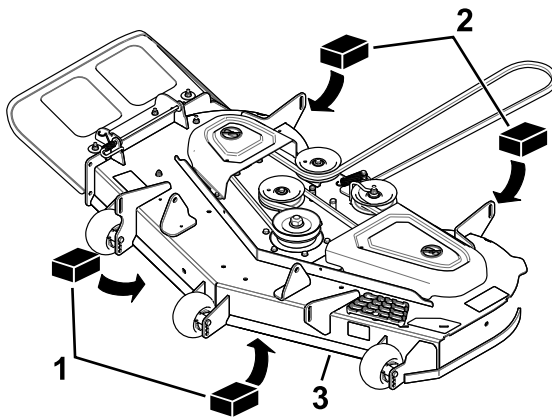

Figure 64
3. Place 2 blocks, each having a thickness of 6.6 cm (2-5/8 inches), under each side of the front edge of the deck but not under the anti-scalp roller brackets (Figure 64).
4. Place 2 blocks, each having a thickness of 7.3 cm (2-7/8 inches), under the rear edge of the cutting deck skirt, 1 on each side of the cutting deck (Figure 64).